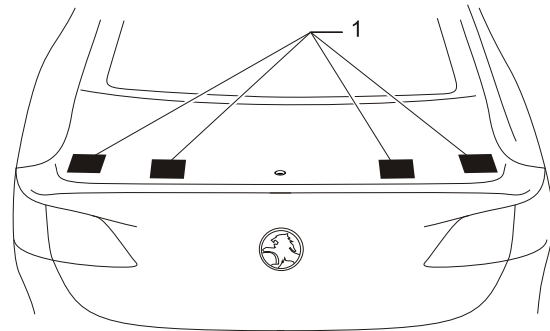

FIGURE 5
9. Apply masking tape on the decklid in the 4 places where the holes for the remaining 4 fasteners will be drilled. Refer to figure 5.